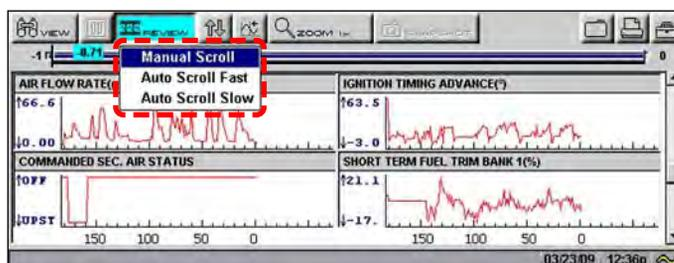

Figure 5-42 Sample Review dropdown menu
1. With the **Review** button selected, press **Y/✓** again to display a dropdown menu of options (Figure 5-42).